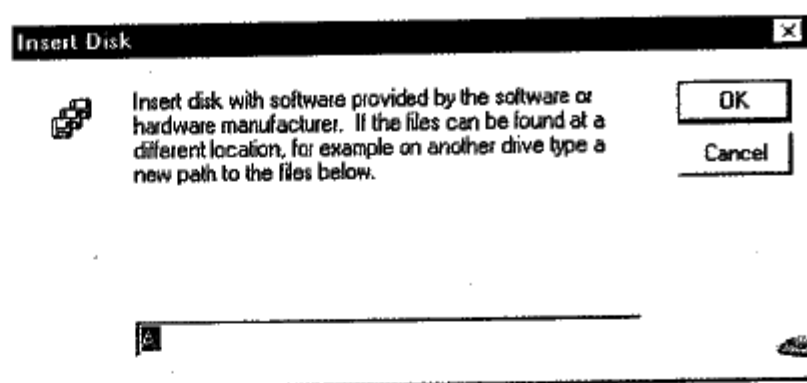

Figure 3-26
6. In the "Insert Disk" window, enter "A:" as shown in Figure 3-26, then click "OK".